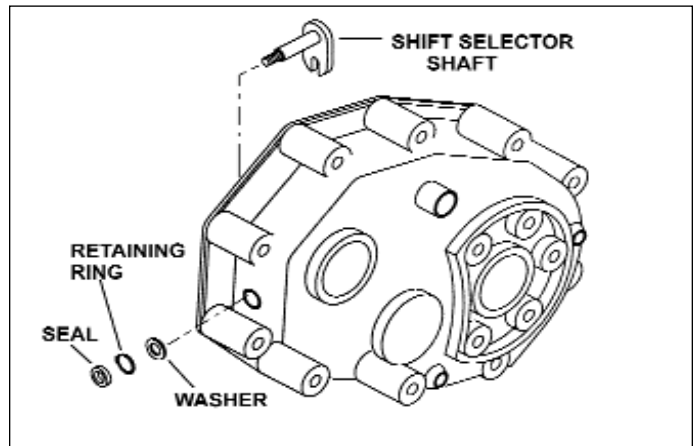

Figure 36 - Shift Selector Shaft
16. Remove seal from shift selector shaft. Remove retaining clip, washer, and shift selector. Shaft can now be removed from gear case. See Figure 36.
1. Install shift selector shaft, washer and new retaining ring. Install oil seal. See Figure 36.